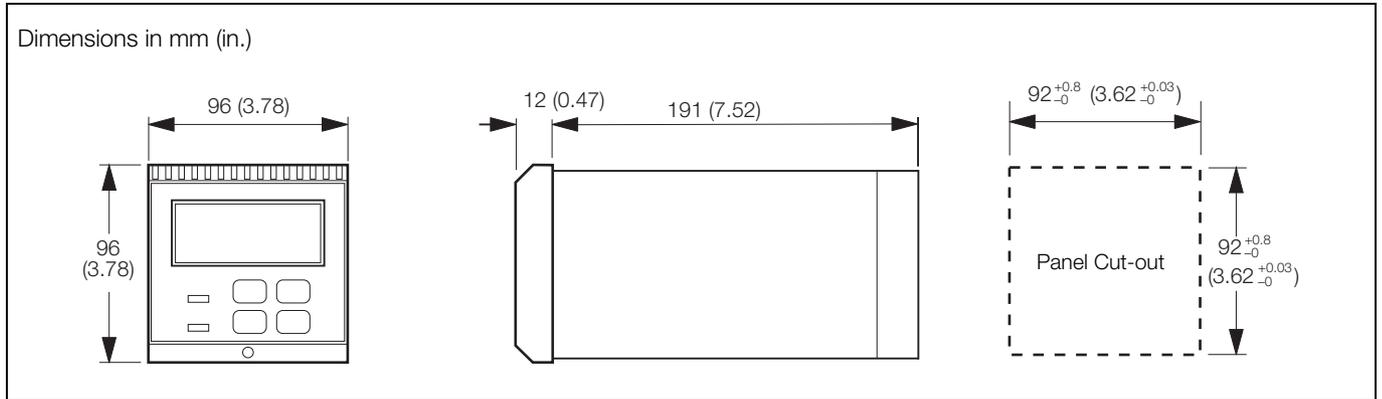

Fig. 3.6 Overall Dimensions
- ① Cut a hole in the panel (see Fig. 3.6 for dimensions). Analyzers may be close stacked to DIN 43835.
- ② Loosen the retaining screw on each panel clamp.
- ③ Remove the panel clamp and anchors from the analyzer case.
- ④ Insert the analyzer into the panel cut-out.
- ⑤ Refit the panel clamps to the case, ensuring that the panel clamp anchors are located correctly in their slot.
- ⑥ Secure the analyzer by tightening the panel clamp retaining screws.